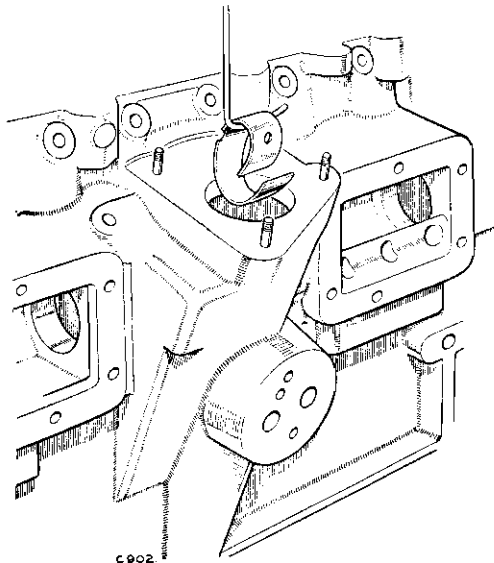

Fig. A-406—Inner camshaft bearing removal
3. The front intermediate bearing is removed by drifting it into the fuel injection pump drive chamber, using the same tool, but it must be collapsed before withdrawing from the drive aperture as illustrated in Fig. A-406.